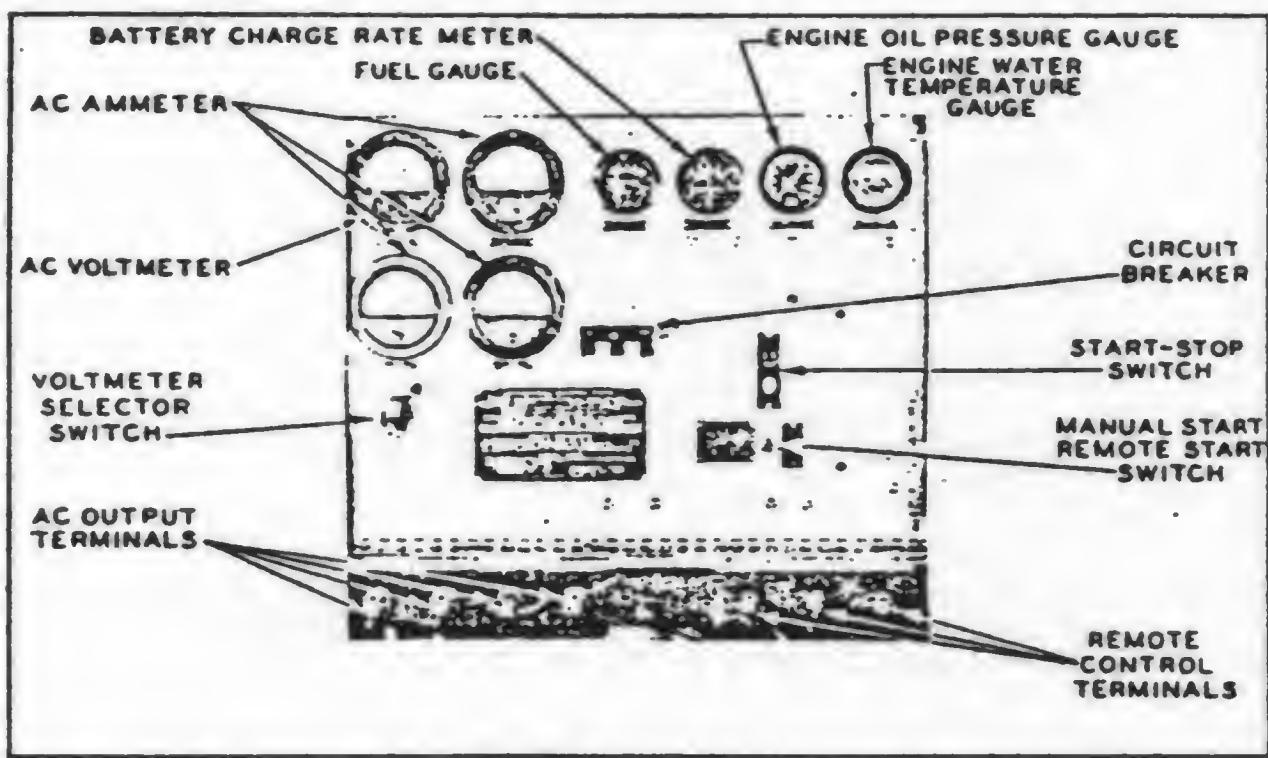

FIG. 3 CONTROL PANEL
b. **Control Panel Equipment.**—The following pieces of equipment are mounted on the control panel. (See Figs. 3 and 4).
(3) *Remote Control.*—If it is desired to start and stop the power unit from one or more remote points, it will be necessary to install remote start and stop switches at each of the remote points and to connect them with the REMOTE CONTROL terminals, (Fig. 3), below the control panel of the power unit. Use 2-pole push button type switches, one for starting and one for stopping. Connect the insulated terminal of the starting switch to the REMOTE CONTROL terminal R. Connect the
(1) **Circuit-Breaker.**—Make sure that the CIRCUIT BREAKER (Fig. 3) is in the OFF position.